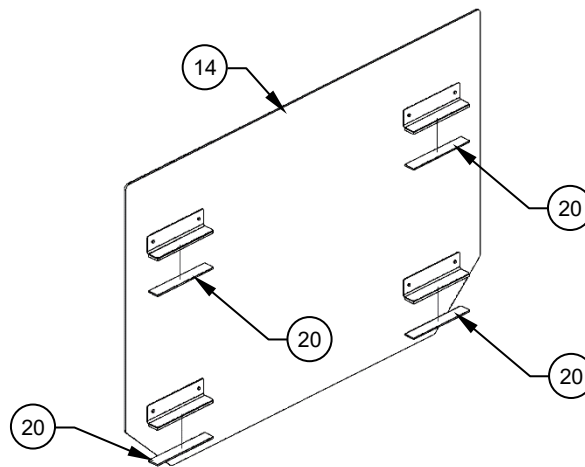

Figure 1
1. Make the aircraft ready for maintenance. Gain access to the baggage compartment. Reference Figure 1.
3. Locate the LHS OUTBD Panel, Assy, (Item 14), so that it rests on the OEM angles and is centered fore and aft. Mark the fore and aft edges on the OEM angles. Reference Figure 1.